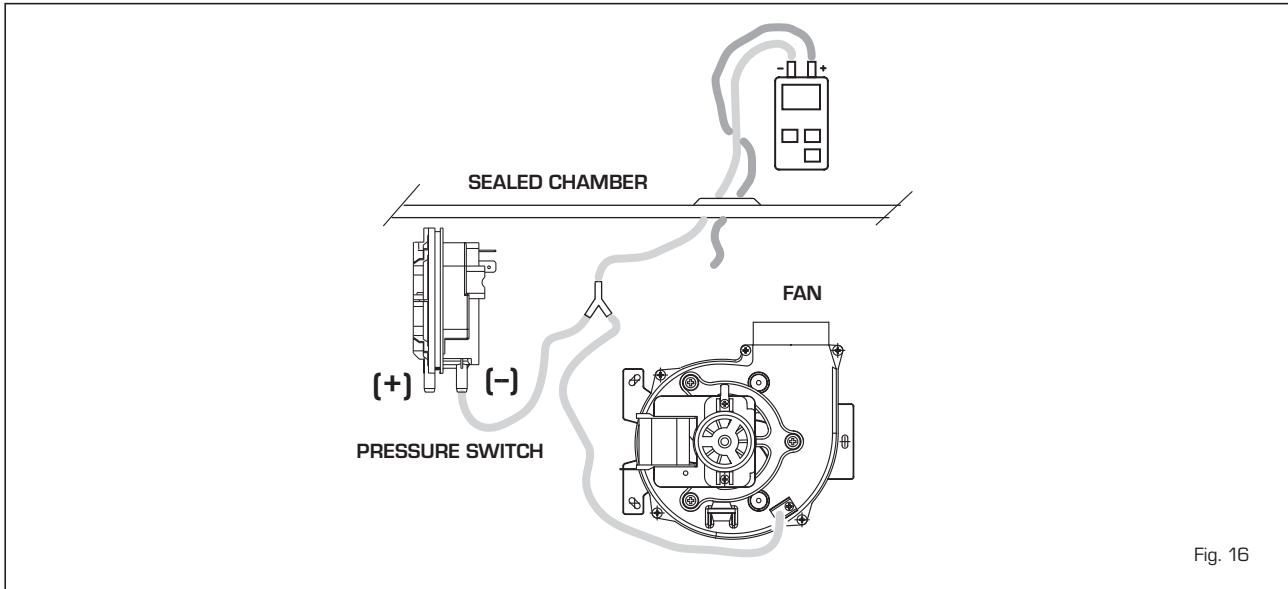

Fig. 16
3.8 FUMES PRESSURE SWITCH (fig. 16)
The pressure switch is calibrated by the manufacturer at the following values: 0.62 - 0.72 H₂O which can guarantee boiler functioning also with aspiration and discharge pipes of the maximum length allowed. The value of the signal to the pressure switch is measured by a differential pressure gauge connected as indicated in fig. 16.